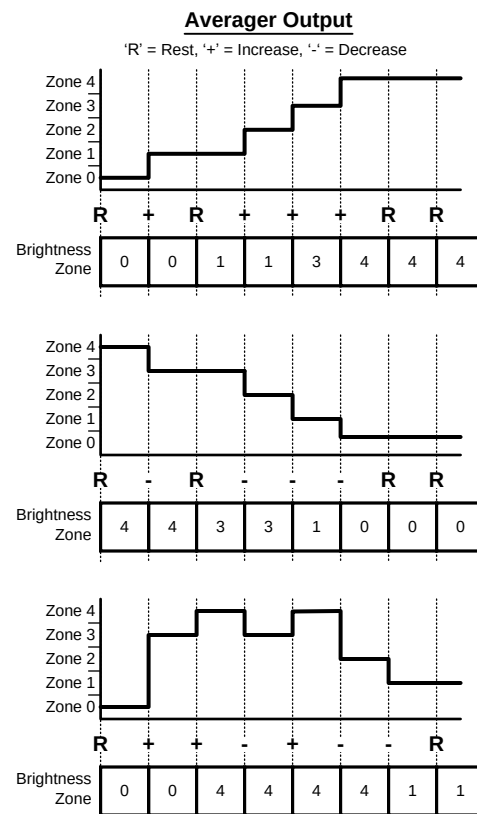

Figure 29. Brightness Zone Change Examples
5. To Increase the brightness zone, the Averager output must have increased for at least 2 averaging periods ('+' to '+' or '+' to 'Rest' in Figure 29).
6. To decrease the brightness zone, the Averager output must have decreased for at least 2 averaging periods ('-' to '-' or '-' to 'Rest' in Figure 29).
In the case of two consecutive increases or decreases in the Averager output, the LM3530 will transition to zone equal to the last averager output (Figure 29).